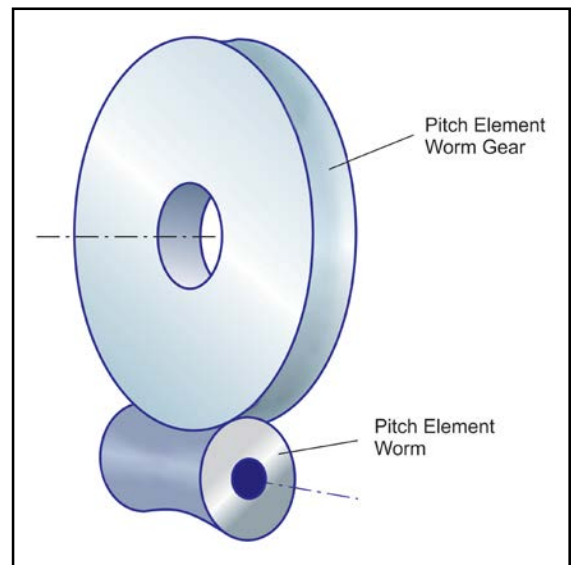

Figure 4 Pitch elements of double-throat worm gear pair.
**C. Double-enveloping worm gear drives (double-throated worm gear drives).** These are special types of worm gear drives with a very high contact ratio and high torque transmission abilities. Again, here the worm has one to six teeth (starts) and the worm gear has a high number of teeth (e.g. 30 to 300). The pitch elements of worm gear and worm have a hyperbolic appearance which is why Case C is called “double-throated” (Fig. 4). The worm is manufactured on a lathe, where the cutting blade profile rotates around a center point while it moves along the face width. The distance between the cutting blade pitch point and the center of blade rotation is identical to the pitch radius of the worm gear. The profile is not a generated involute, but in a straight line. The worm gear is manufactured with a hob that has the pitch diameter of the worm at the center of the throat and the same number of starts, unlike the number of worm teeth. Also, here the worm gear is cut (as in Case B) by plunging with the hob cutter at the center of the worm gear's face width. The two members have line contact that appears even under light load, as with large elliptical zones—even in single angular positions.